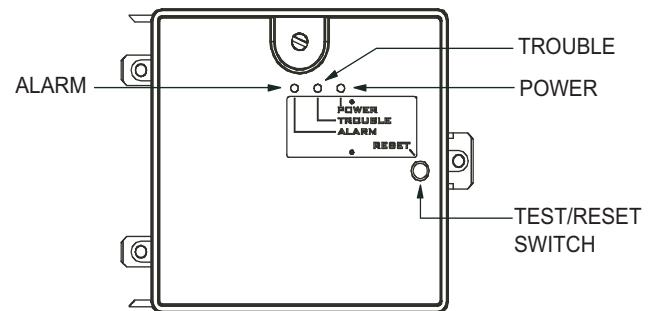

Fig. 1 — Controller Assembly
- Alarm, Trouble, Dirty, and Power status LEDs (see Table 5 and Fig. 1).
- The contacts on the controller's supervisory relay switch positions (see Fig. 1).
1. Locate smoke controller in kit (see Fig. 1).